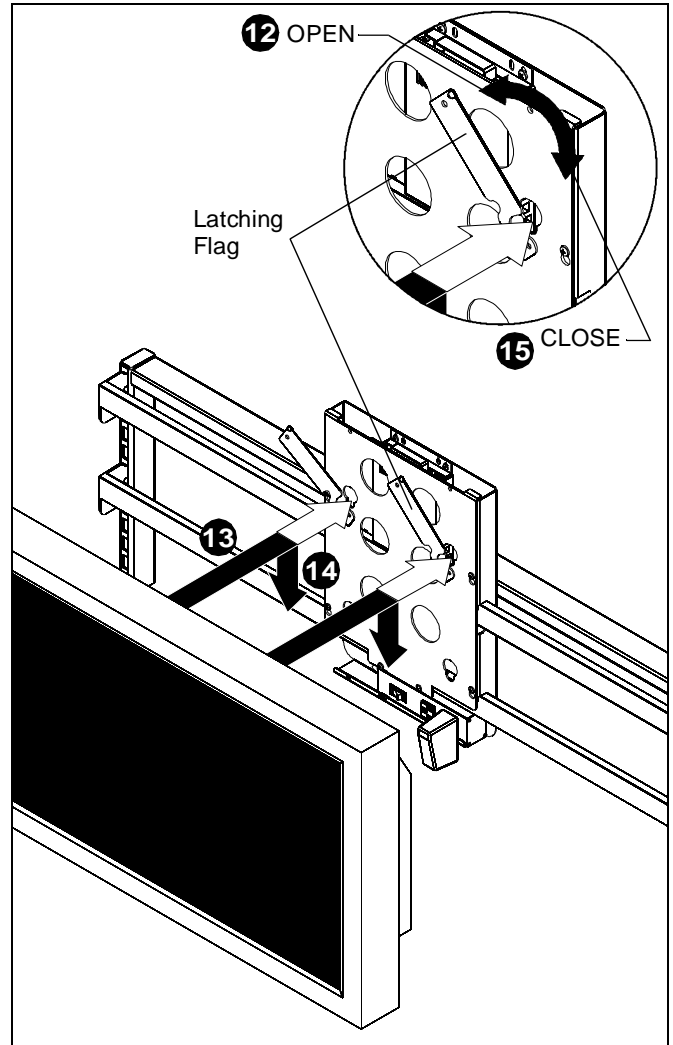

Figure 7
12. Verify latching flag is in the OPEN position. (See Figure 7)
13. Align four mounting buttons (D) with four teardrop mounting holes in faceplate. (See Figure 7)
14. Insert four mounting buttons (D) into four teardrop mounting holes in faceplate and lower display until mounting buttons are properly seated in lower area of teardrop mounting holes. (See Figure 7)
15. Move latching flag to the CLOSED position. (See Figure 7)